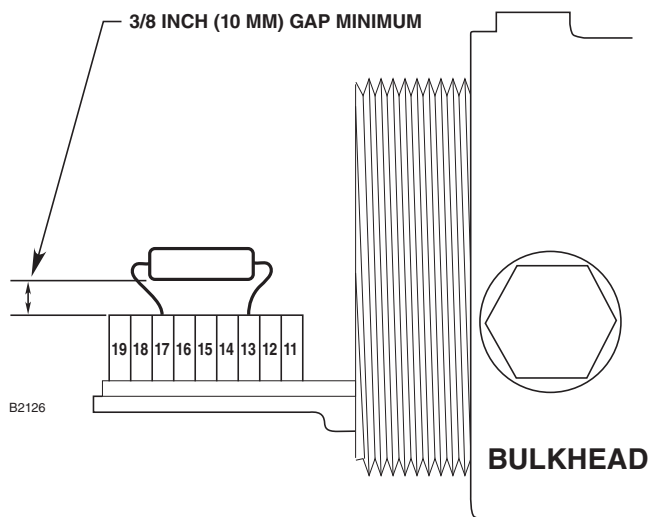

Figure 13—EOL Resistor Installation
3. Bend the leads and install the EOL resistor as shown in Figure 13.